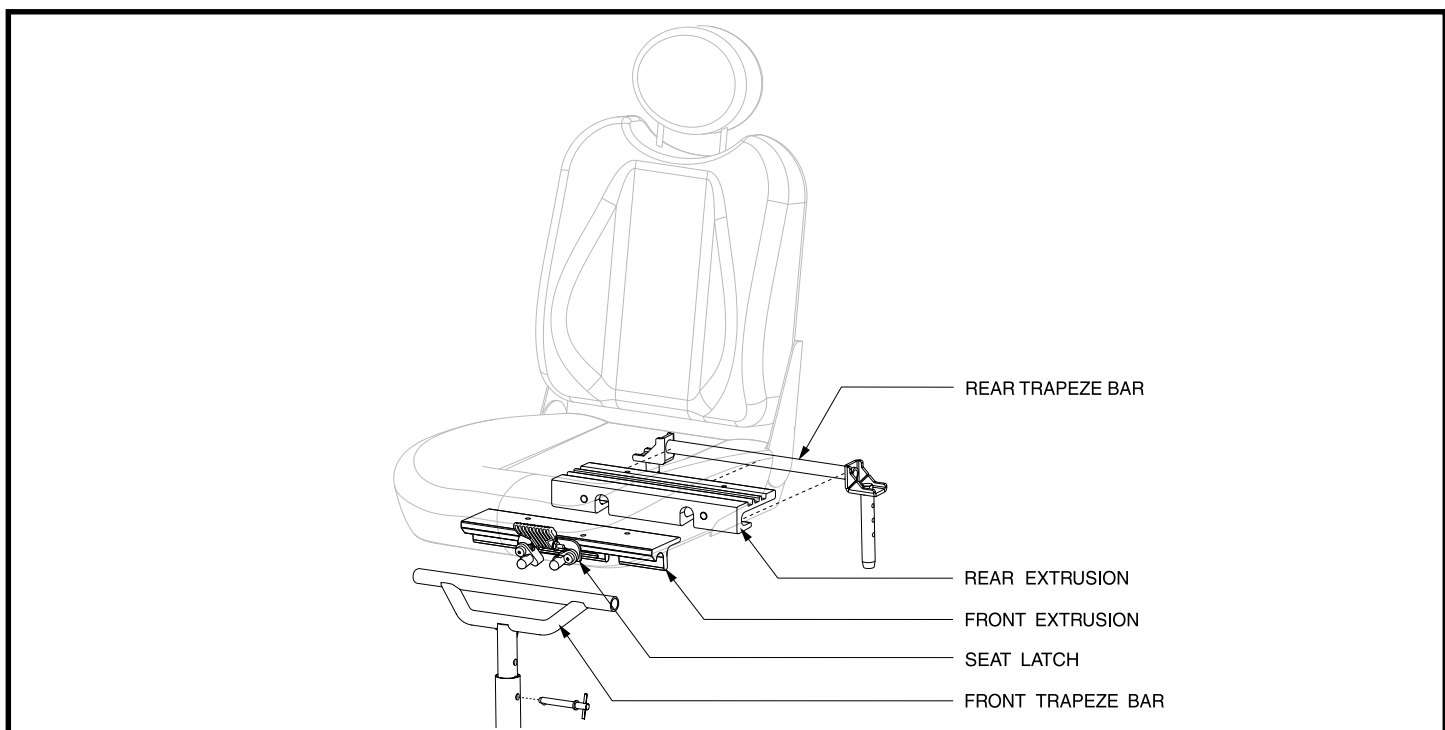

Figure 8. Universal Mounting System
2. Tilt the seat back, and slide the rear extrusion onto the rear trapeze bar. See figure 8.
4. Flip the seat latch safety down. See figures 8 and 9.
The seat is attached to the power base through the UMS. See figure 8. You can change the seat height to one of three positions in 1-in. increments by raising the front and rear trapeze bars. If you raise or lower only one trapeze bar (front or rear), you can also change the seat base angle (dump).
2. Remove both extrusions from the bottom of the seat. See figure 8.